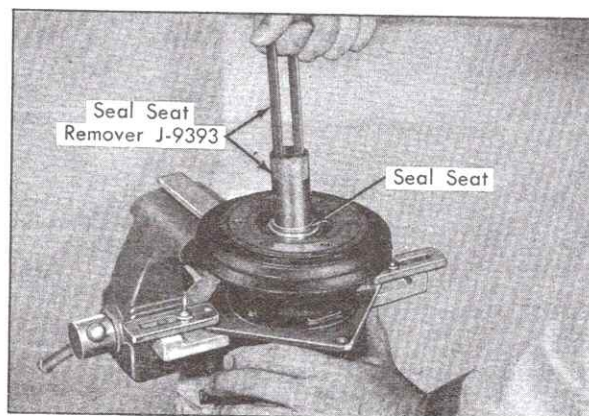

Fig. 1-42 Removing Seal Seat
5. Remove seal seat using Seal Seat Remover and Installer, J-9393, Fig. 1-42. Grasp seal seat with tool flanges and pull straight up on end of tool to remove seal seat.